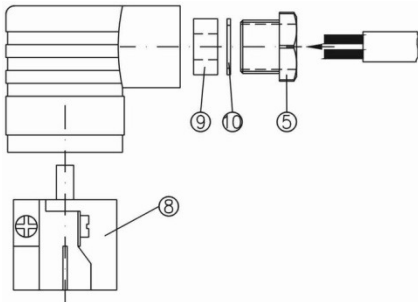

Fig. 10
- Insert the supply cable through the screwed cable gland ⑤, the pressure ring ⑩ and the rubber insert ⑨ into the cable socket ② (→ Fig. 10).